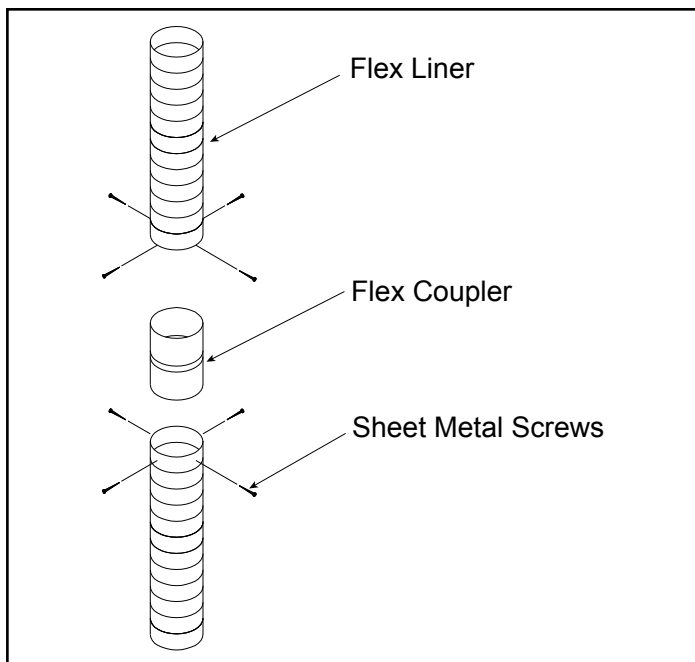

Figure 4.25
7. If additional lengths of flex liner are needed to span the chimney height, use a flex coupler to connect the pieces of flex liner together. Connect the flex to the coupler by using four sheet metal screws for each side. See Figure 4.25.